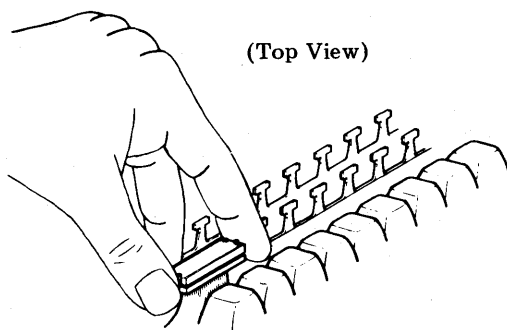

Fig. 22—Cable Connector Removal
- (e) Grasp the cable connector using thumb and index finger (Fig. 22).